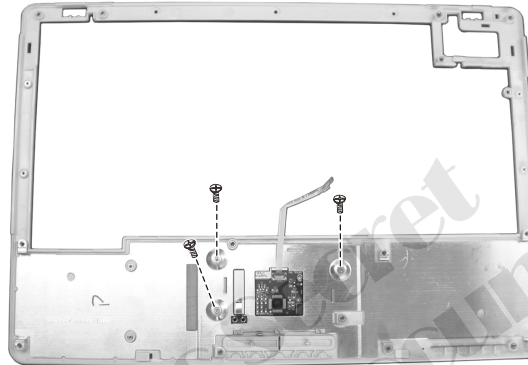

Figure 2-33 Free the touch pad
4. Remove the three screws fastening the shielding, then free the touch pad. (Figure 2-33)